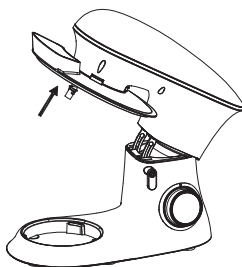

Fig. 2
2. Place the splash cover (9) into its body and turn the splash cover until it locks into place. [Fig. 2]